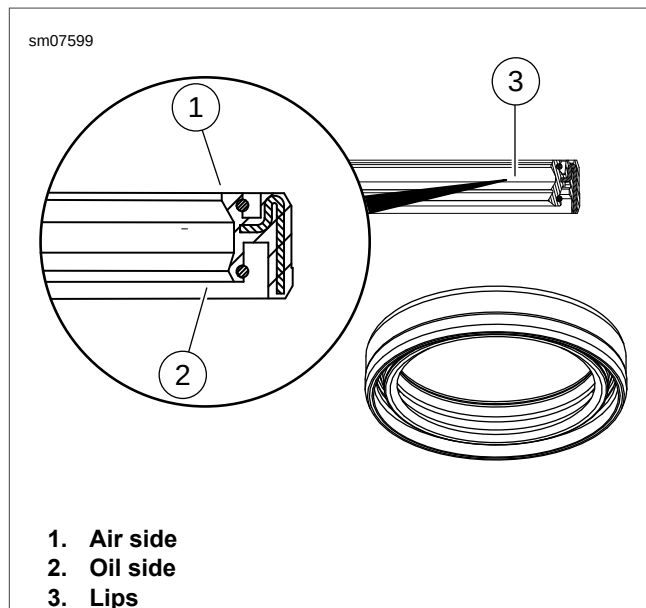

Figure 2-141. Oil Seal
1. See Figure 2-141. Remove tube cap (7) from slider tube (9). Remove O-ring (6) from tube cap.
2. Place a pan under the fork. Remove the drain screw and washer (19) from slider. Drain the fork oil.
1. See Figure 2-141. Remove spring (5) from slider tube.
2. **All except XL 883L and XL 1200X:** Remove spring collar (20) and spring washer (21) from slider tube.
3. **All except XL 883N:** Remove cover (11).
5. See Figure 2-141. Remove dust seal (12). Compress internal circle clip (13). Remove clip from groove in top of slider bore.
6. Remove screw (18) and washer (17) from bottom of slider.
- See Figure 2-141. Coat the lips (3) of the oil with HARLEY-DAVIDSON SEAL GREASE.